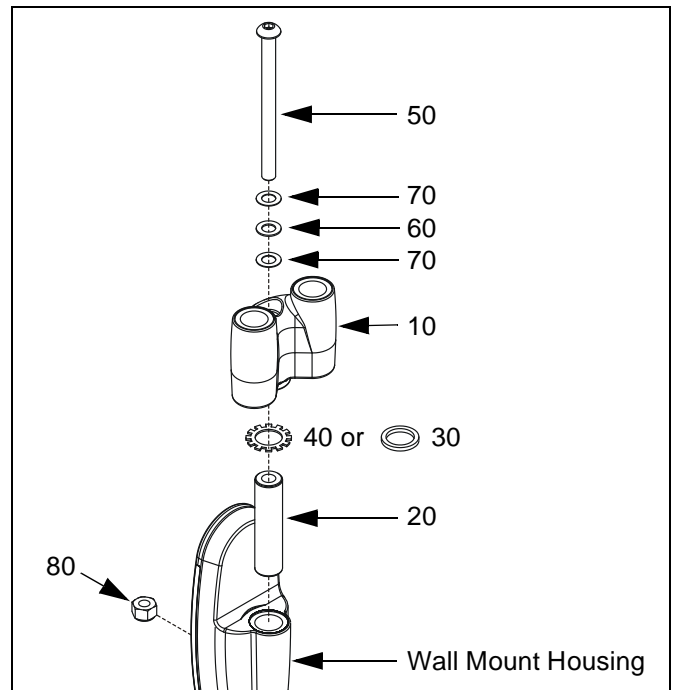

Figure 7: Assemble Y-Connector to Wall Mount
- Install pin (20) into wall mount (See Figure 7).
5. Install washer (40) or spacer (30), as desired, on pin (20) (See Figure 7).
6. Install Y-connector (10) on pin (20) (See Figure 7).
8. Install screw (50) through washer (70), washer (60), washer (70), and Y-connector (10), into nut (80) (See Figure 7).
9. Using 3/16" hex key tighten screw (50) as required to maintain desired Y-connector (10) position.